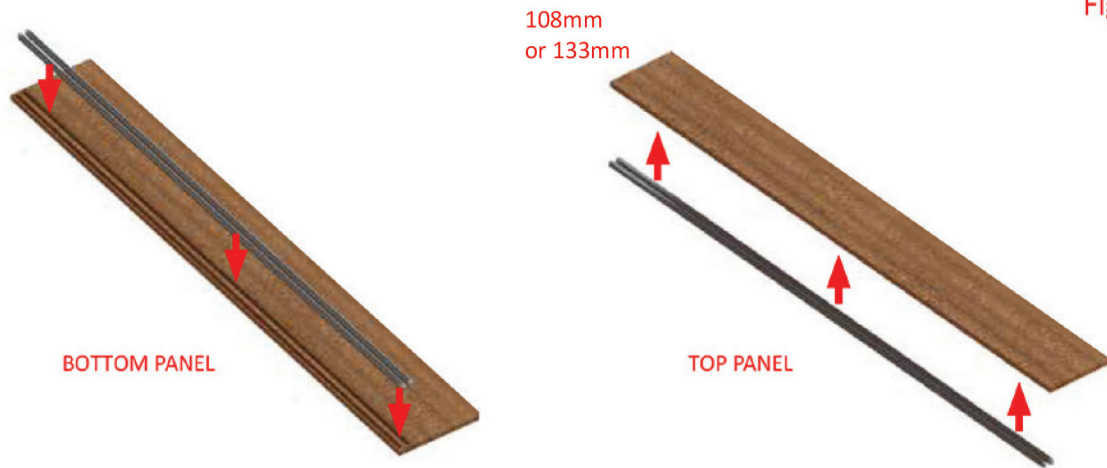

Figure 3.
1. Place the track assembly into the slots on the bottom panel. Repeat this step for the top panel, as guided in **Figure 3**.